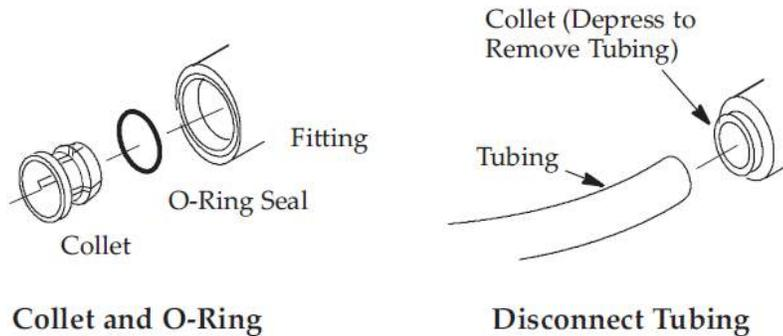

Figure 8
- Push the collet inward with a supplied Quick connect fitting removal tool. See Figure 8.
- Continue holding the collet inward while pulling the tubing. See Figure 8.